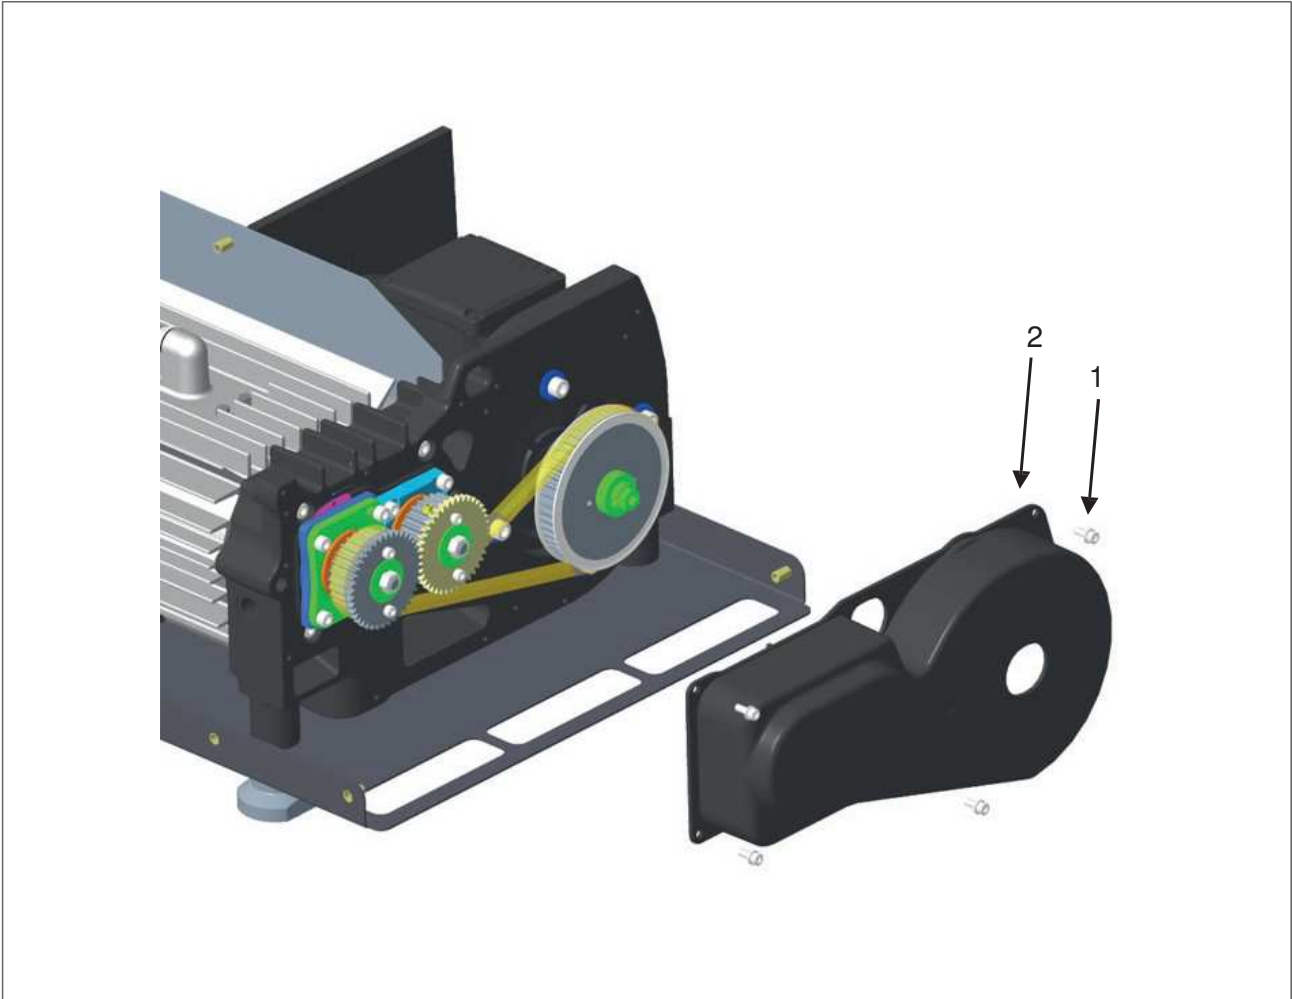

Figure 12 – Belt chamber cover assembly
1. Assemble Belt chamber cover (Figure 12, Item 2) onto the bearing flange with 4 cap screws (Figure 12, Item 1) using 5mm Allen key.